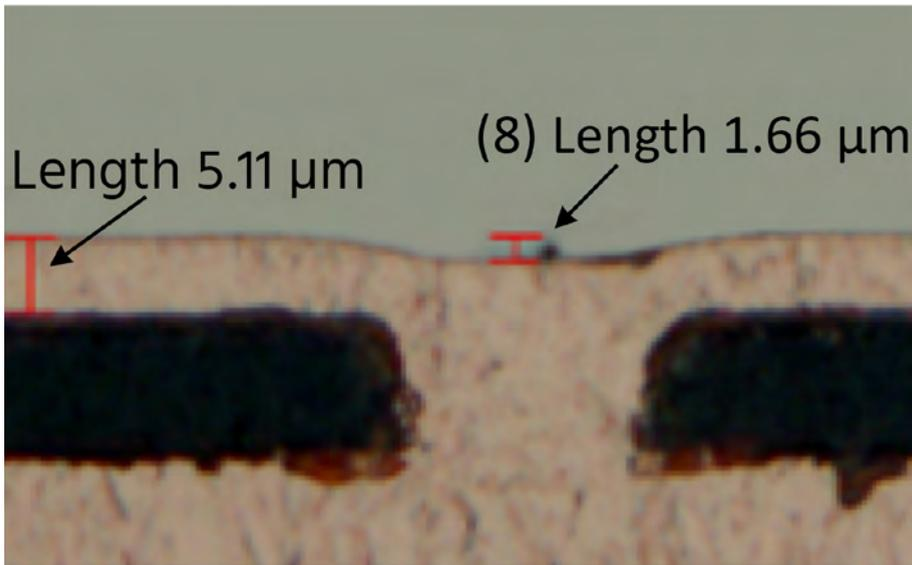

Figure 10: Achieved copper thickness distribution on a 600x600-mm panel.
2. Capable of filling microvias with a size of 15x10 μm by having only 5 μm plated thickness on the surface and a dimple less than 2 μm (Figure 10)